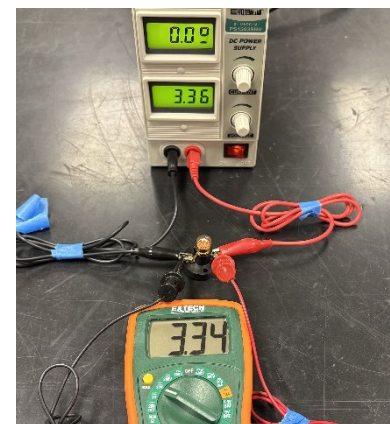
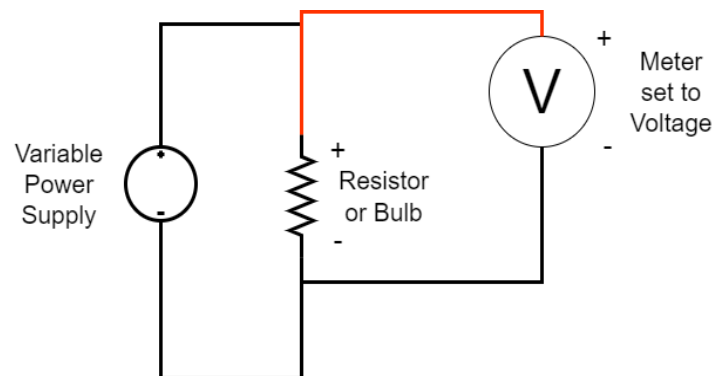

Figure 3: Power supply and voltmeter connected to the bulb for voltage measurement.
Figure 4: Circuit for Voltage measurement.
2. First, set it to 2V and then use your meter to measure the voltage across the light bulb by touching your probes to the screws of the socket, as shown in Figure 3. This sets up the circuit shown in Figure 4.